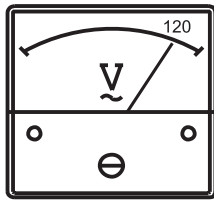

Figure 9. Voltmeter
6. The generator's **AC voltmeter** (Figure 9) will display the generator's output in **VOLTS**.